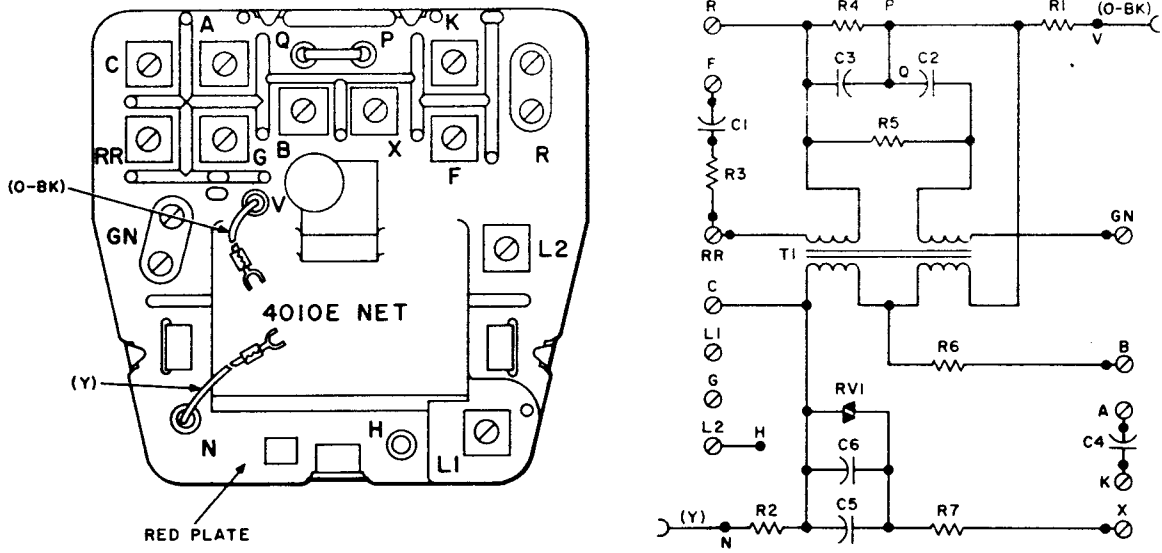
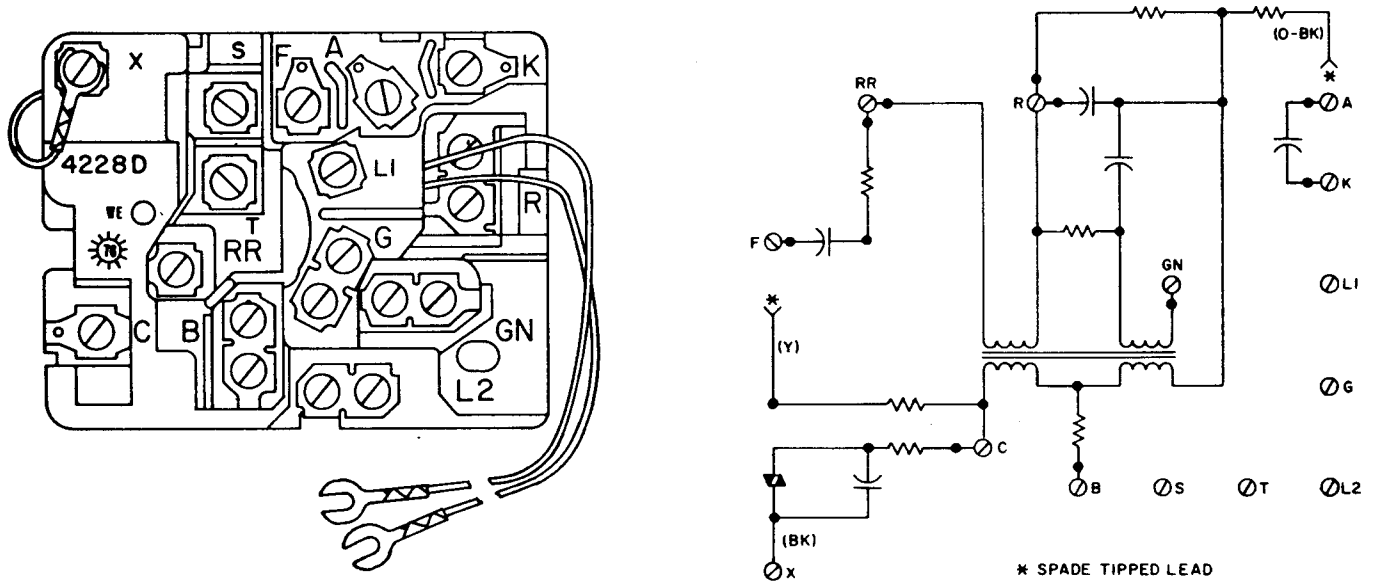
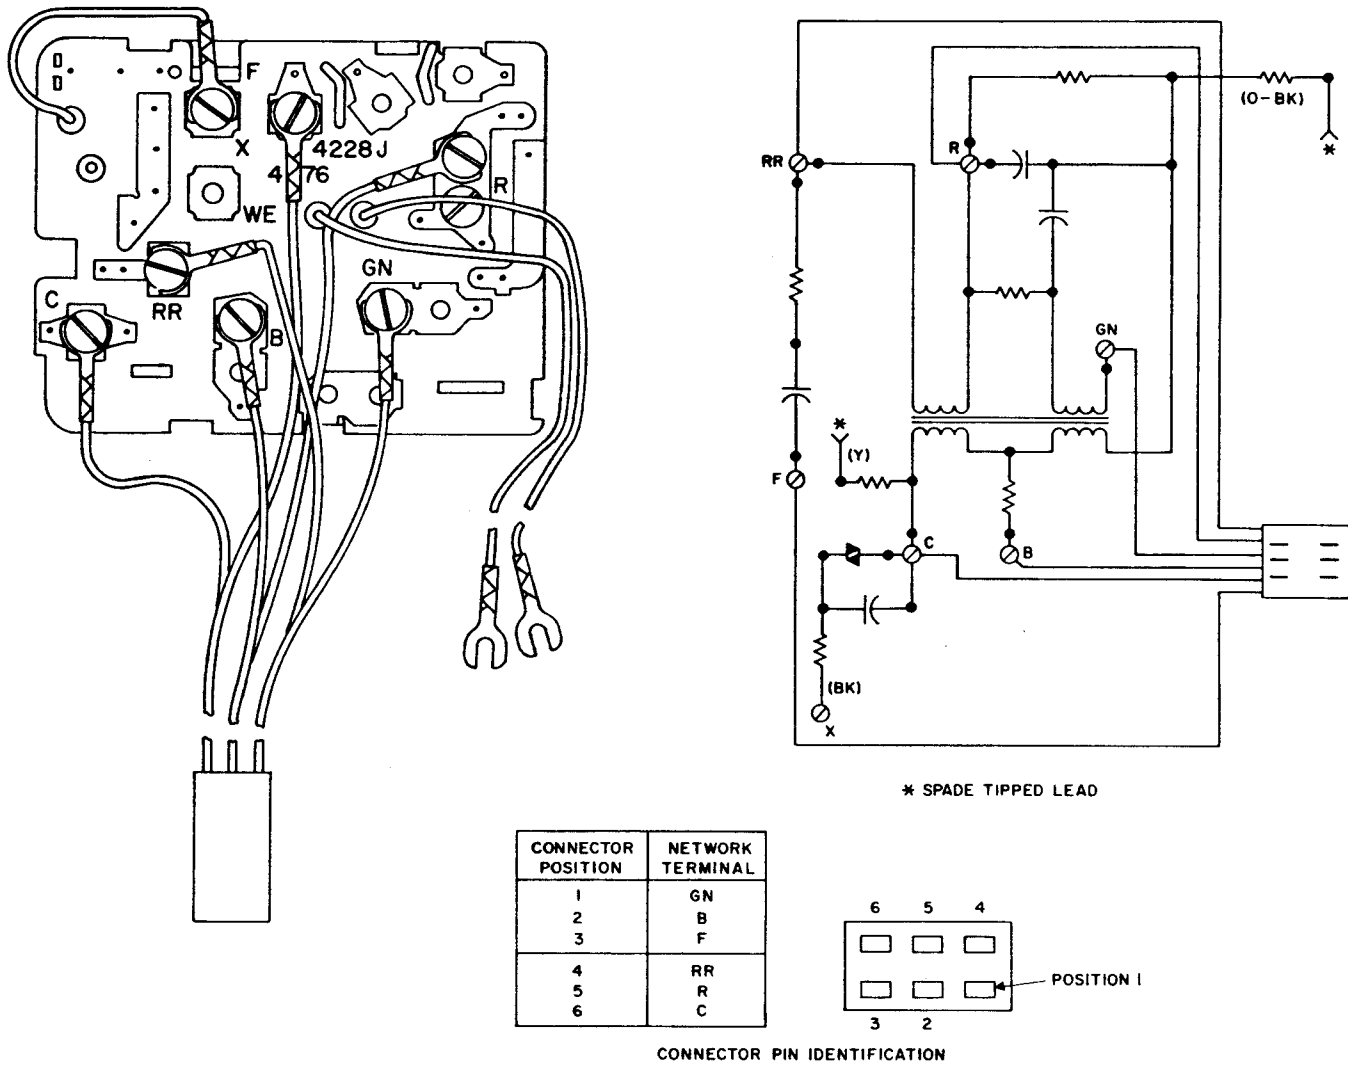

Fig. 2—4010E (MD) Network, Terminal Layout, and Schematic
Fig. 3—Network, Terminal Layout, and Schematic
Fig. 4—4228J Network, Terminal Layout, and Schematic
2.01 Networks, 425J (MD) (Fig. 1), 4010E (MD) (Fig. 2), 4228D (Fig. 3), and 4228J (Fig. 4) have strapping options for loop equalization. These networks can be used on rotary or touch-tone dial applications. The 4228J network has leads terminated on a connector. Refer to Section 501-135-100 for additional information on networks.